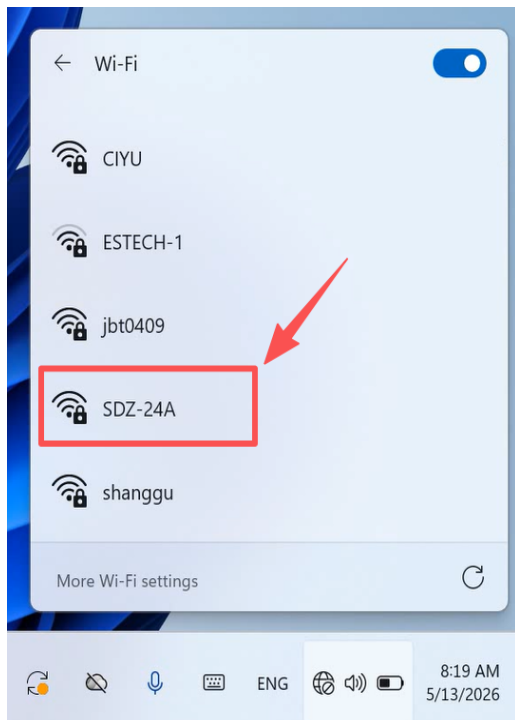

Figure4.1a
3. Click the network icon on your computer (or tablet). The interface shown in Figure 4.1a will appear. Select and click the seismic device you wish to connect to. Ensure the SSID matches the “Factory Serial Number” on the device nameplate, such as “SDZ-24A” shown in Figure 1. Click “Connect.” For the first connection, enter the password ‘12345678’ (as shown in Figure 4.1b), then click “Next.” Since no external network is connected, a connection waiting screen may appear—ignore this and directly open the acquisition software. The startup screen (Figure 4.1c) indicates successful computer-device connection, allowing you to proceed with data acquisition. If the message “Failed to connect to lower-level machine! Software will run in offline mode with 48 channels!” appears (as shown in Figure 4.1d), this indicates incorrect network parameter settings in the software. Proceed to Step 4 for configuration.